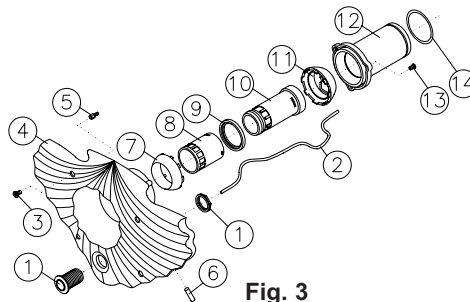
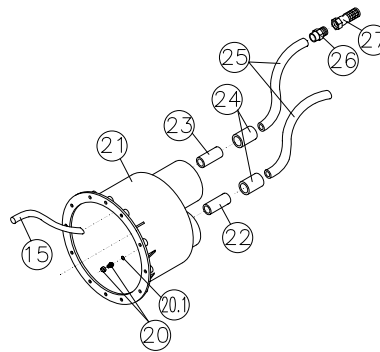

Fig. 3
Fig. 2
El tubo transparente (nº 2, fig. 2) lo conectaremos al microinterruptor situado en la parte superior derecha del cuadro, es muy importante asegurarse de que el tubo transparente, no queda doblado. El cuadro hidroneumático está compuesto por:
**3.1** To fix the niche (no.21, fig.2) in a concrete wall, only the instructions given in chapter 2 (place of installation) need be followed.
**4.1** The niche is supplied with pipes no.22 and 23, (fig.2) already installed. Additionally, one of the hoses (no.24, fig.2) is supplied glued inside pipe no.22.
This line is made up of a hose (no.24), a flexible pipe (no.25), a male screw fitting (no.26) and a foot valve (no.27). All these parts are supplied fitted, so it is only necessary to glue the end of the hose (no.24) to the pipe (no.23) which is already fitted in the niche. It is important to fix the air line pipe to the wall of the housing so as to ensure that foot valve is in the upper part. This is so as to avoid sucking up dirt (see fig. 8, page 20). Lastly, install the flexible pipe (no.15, fig. 2) pressing it inside the nozzle in the interior of the niche (see fig.5, page 17).
This line is made up of a pipe (no.22), a hose (no.24) and a flexible pipe (no.25). As the pipe (no.22) and the hose (no.24) are already installed in the niche, you only need to glue the pipe (no.25). Before gluing the end of the pipe (no.25) to the hose (no.24), fit the transparent pipe (no.2, fig.3) into the pneumatic line and pass the end of the transparent pipe (no.2, fig. 3) through the hole in the niche. Fix it in position with the clamp (no.20 and 20.1, fig.2). Once this is complete, glue the pipe (no.25) to the hose (no.24). The end of the transparent pipe (no.2, fig.3) will be connected to the microswitch located on one side of the hydropneumatic cut out included with the HIDROJET equipment.